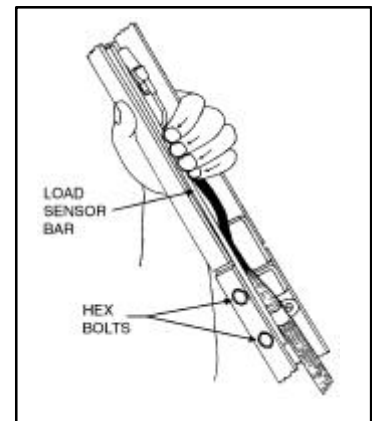

FIGURE 2-22: LOAD SENSOR ADJUSTMENT
- a. Refer to **Figure 2-22**. Place your left hand around knuckle vertical link assembly as shown; link is located on left side of lift.